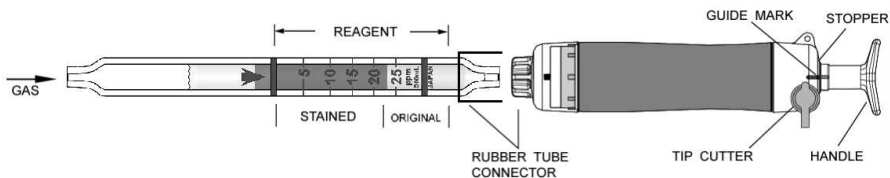

Fig.1
- ② Insert the detector tube into the aspirating pump securely as shown in Fig.1. (Arrow mark shall point to the pump.)
- ③ Align the guide marks on the shaft and stopper of the aspirating pump.
- ④ Pull the pump handle at a full stroke until it locks and wait for 1 minute or until the completion of sampling is confirmed with the flow indicator of the pump. (See descriptions about the flow indicator in the instruction manual of the pump.)
- ⑤ Push back the handle without removing the detector tube from the rubber tube connector so that air in the pump will be discharged perfectly. Then repeat the step ③~④ fourth more.
- ⑥ On completion of sampling, read the scale at the maximum point of the stained layer.